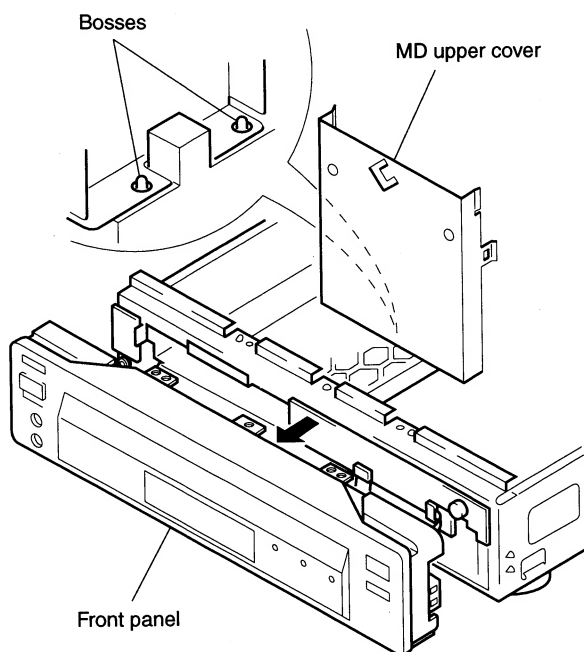

Fig. 3
- 4) Remove the MD upper cover, and mount as shown in Fig. 3.